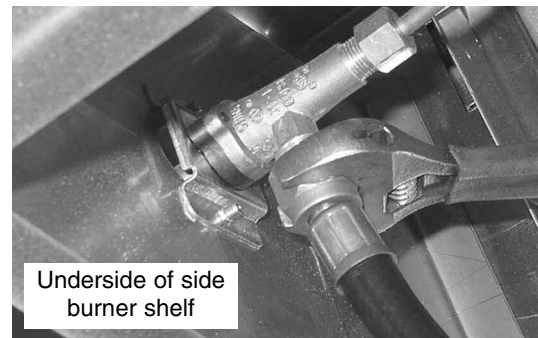

Fig 35
10. Connect the end of the new gas supply hose to the NG valve assembly. (See Fig. 35).